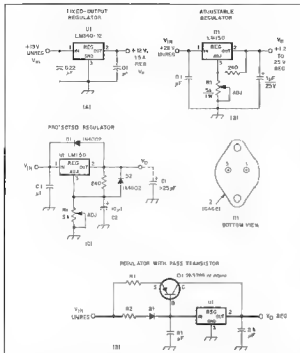

Fig 2—Circuits for three-terminal regulator ICs. These circuits are explained in the text.
Four basic considerations exist for selecting a regulator: (1) the maximum required output current, (2) required output voltage, (3) unregulated input voltage; and (4) ambient temperature. When you know the answers to items 1 and 2, you may consult the manufacturer's data sheets and make a device selection. Always choose a regulator that has a power dissipation ( $P_D$ ) greater than the maximum load current presented by your equipment. Fig 2 shows some simple circuits for three-terminal regulators. The example at A represents a standard fixed-voltage regulator. ICs are available for various standard output voltages at various maximum-current ratings, such as 5 V, 8 V, and so on. They are also available for positive or negative power supplies. Fig 2B shows a typical adjustable regulator of the type that might
be used for a bench supply. An adjustable regulator with protective diodes (D1 and D2) is shown in C of Fig 2. The diodes are recommended when the output capacitance (C1) is 25  $\mu$ F or greater. This may be the situation when the equipment used with the power supply contains a high-value filter capacitor at the voltage-input terminal. The low internal resistance of the capacitor can cause high-amplitude spikes when shorted (in excess of 20 A), and this can destroy the regulator IC. D1 protects U1 against input short circuiting (C1), and D2 protects U1 against output shorting (C2). Under the respective shorting conditions, C1 and C2 will discharge through the IC and destroy it.